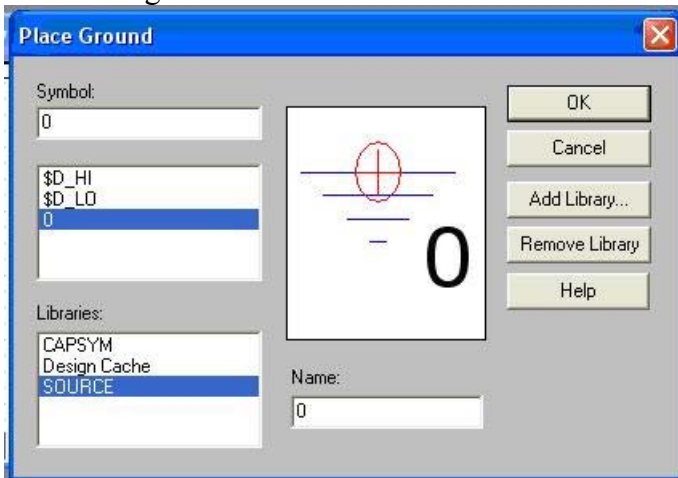

Figure9
- (1) Always use a ground.
- (2) Always use the ground named zero, with the zero next to it in its picture. (see Figure9)
- (3) Make sure all your components have different names.
V1 is currently at 0Vdc so change it (like we changed the resistor name before) to 10Vdc. Now to add a ground click on the icon that says GND on the toolbar (or press “G”). Then add library “SOURCE”, then choose the ground symbol with the zero next to it like in Figure9.